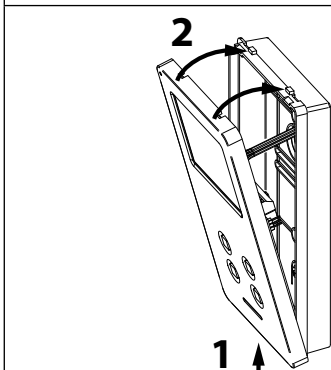

Fig. 7
6. Once testing is complete and all the necessary adjustments are made, close the unit as shown in Fig. 7: first hook in the bottom and then the upper part until you hear a "CLICK!".